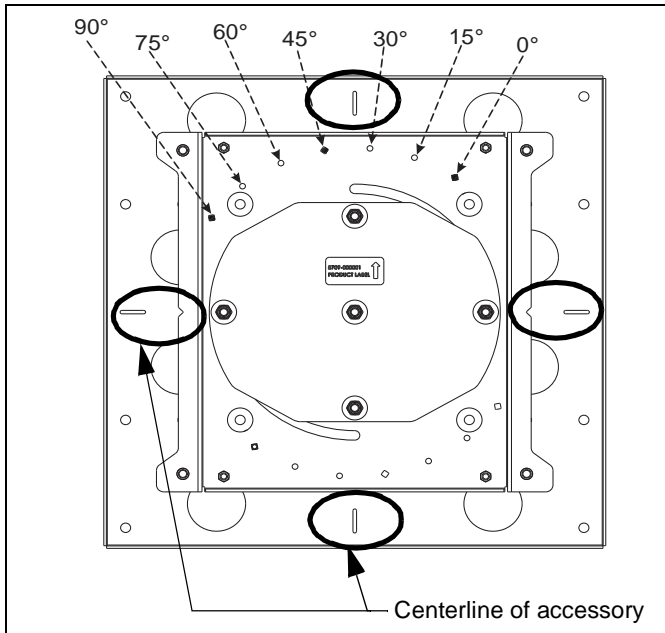
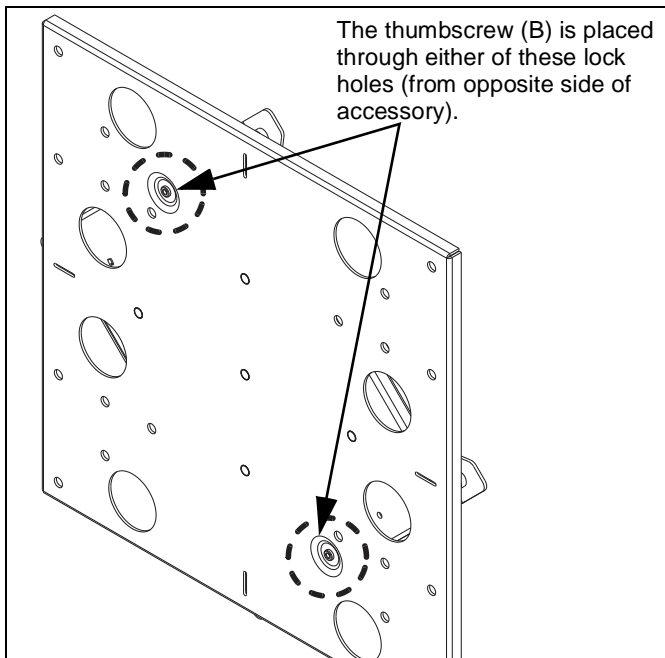

Figure 4
Figure 5
1. Center the mounting system brackets on the FRA accessory, matching center of brackets with center indicators marked on FRA. (See Figure 4)
5. Rotate display as desired, and add 10-24 x 3/8" thumbscrew (B) to lock FRA accessory into place. (See Figure 4) and (See Figure 5)